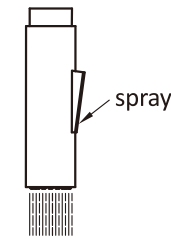

Figure 1
Turn the tap on and press the top of the spray (9) head button to change to spray. (As figure 1)